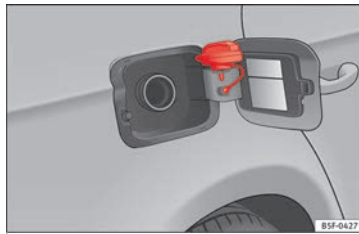

Fig. 60 Fuel tank flap with tank cap attached.
- Place it in the space on the hinge of the open flap »» **Fig. 60.**